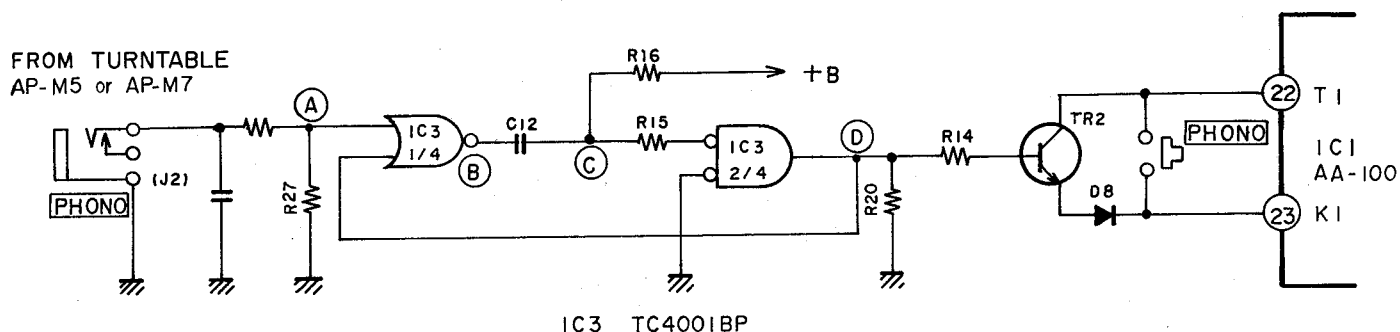

Fig. 5-1 Auto Function Circuit (indicates only PHONO Circuit)
When an AP-M5 or AP-M7 turntable is connected and operated, a control signal as shown in Fig. 5-2 (A) is input to the auto-function control jack (J2) shown in Fig. 5-1, and the waveform of (D) in Fig. 5-2 is created by the monostable multivibrator formed by IC3 (TC4001). When the waveform of (D) is at "H" level, TR2 is turned ON and the timing pulse from the pin (22) of IC1 AA-100 is received by Key Input K1 at pin (23). This means IC1 AA-100 is put into the PHONO mode.